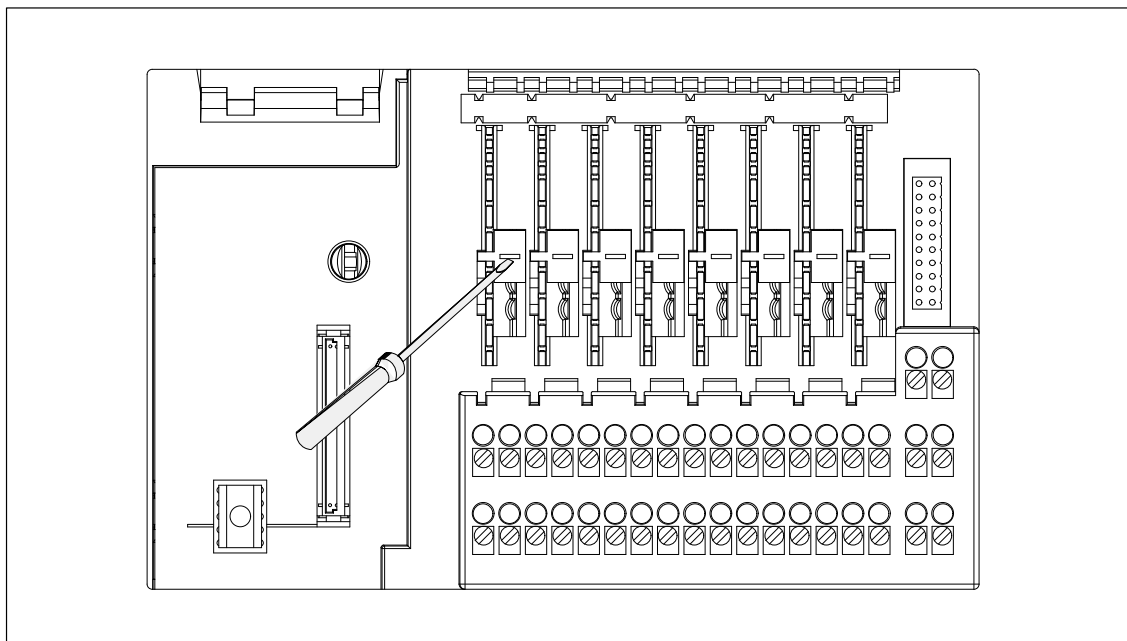

Figure 2-7 Using the Screwdriver
2. Insert the screwdriver into the slot on the coding slide switch (see Figure 2-7).